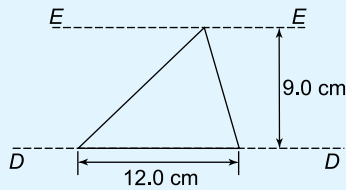

Figure 9.20
- Determine the second moment of area and radius of gyration for the triangle shown in Figure 9.20 about (a) axis DD (b) axis EE , and (c) an axis through the centroid of the triangle parallel to axis DD .